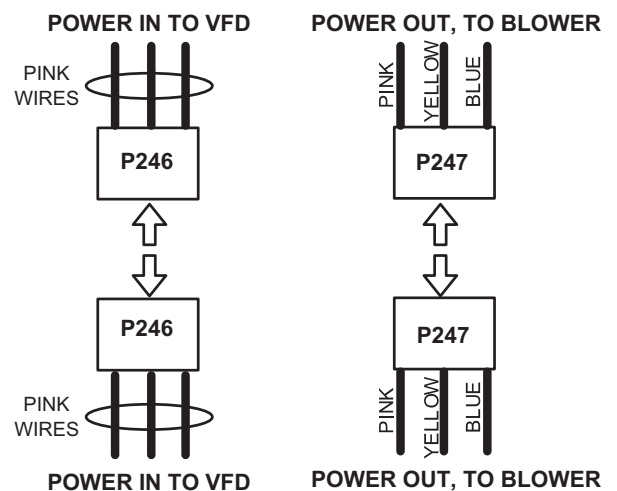

FIGURE 38
- 3 - Disconnect P246 from P246 (power in to VFD) and P247 from P247 (power out to blower). See FIGURE 38.